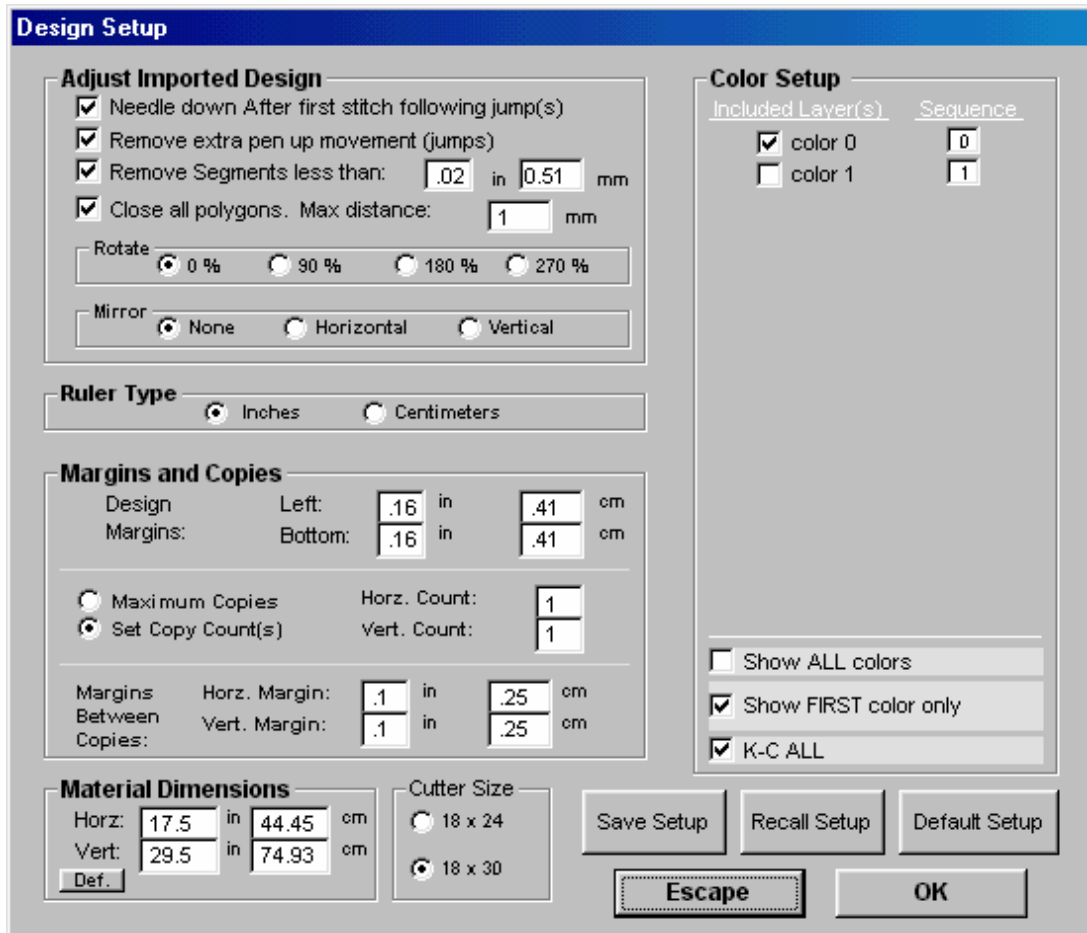

Figure 1: Selecting colors/layers.
- Under the heading, **Color Setup**, select the color/layer that shows the pattern outline, the shape that will be cut around. For 2color.plt, this is color 0. See Figure 1.